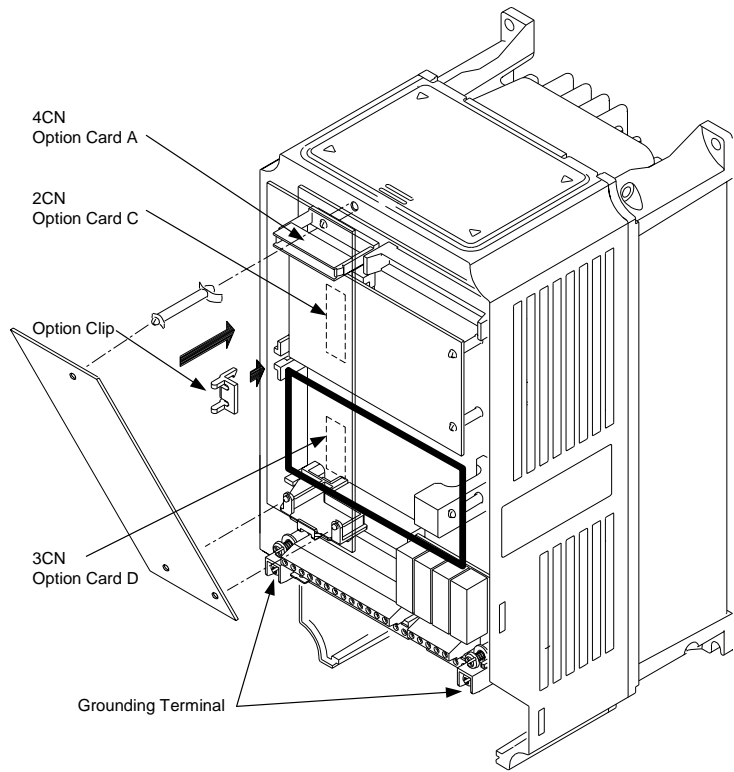

Figure 1. AO-08 / AO-12 Option Card Installation
5. **Option Card Installation:** See Figure 1.